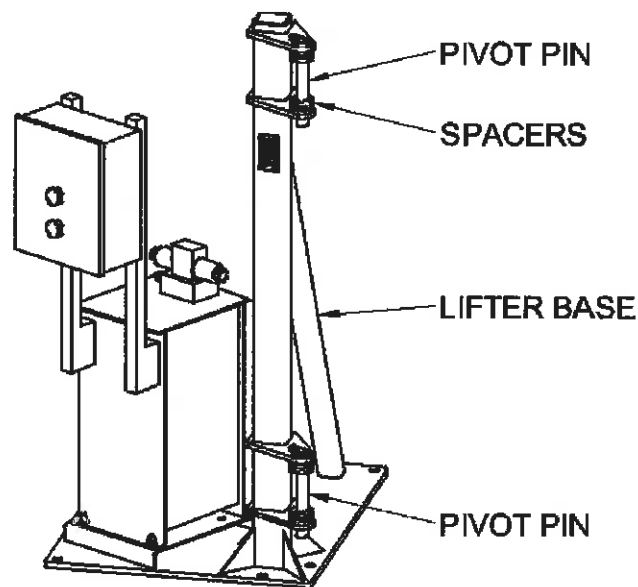

figure I-1
1. Remove the pivot pins and spacers from the lifter base. (figure I-1)